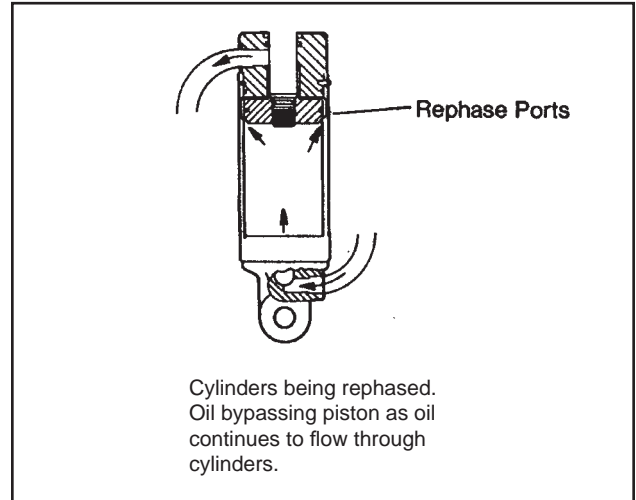

Figure 1
1. Raise drill until cylinders are fully extended. Continue holding lever for several seconds to allow cylinders that are out of phase to fully extend. (Figure 1)